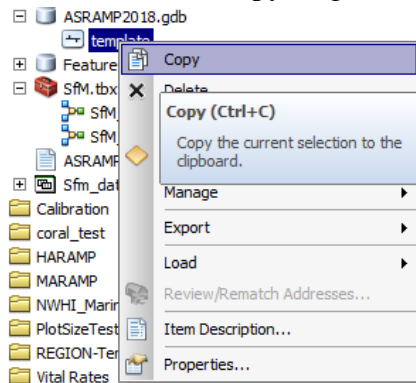

Figure 26. Screenshot in ArcMap of how to copy the template.
2. Click the plus sign to drop down the Geodatabase, right click on the 'template' feature class, and select Copy (Figure 26).